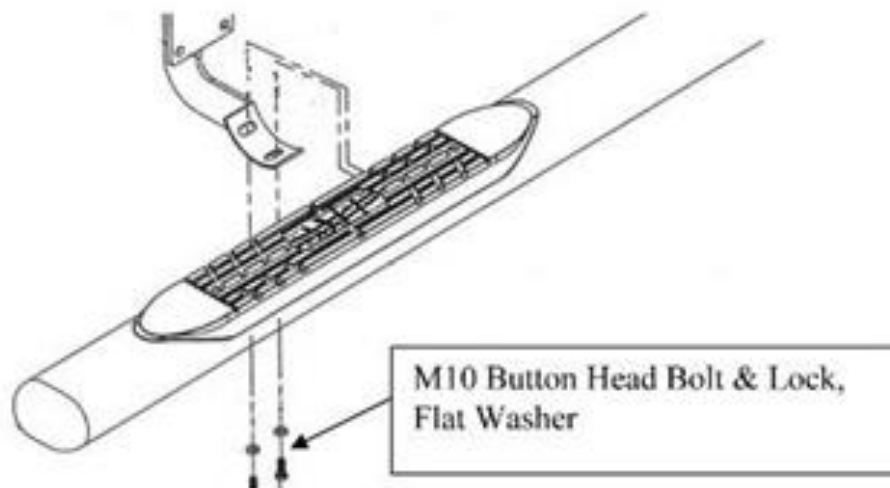

Figure 2. Installation View of Bracket & Bar
- Assemble with M10 button head bolts and M10 lock washers. 2 bolts per bracket, 6 bolts per bar (see Fig 2). Hand tighten.